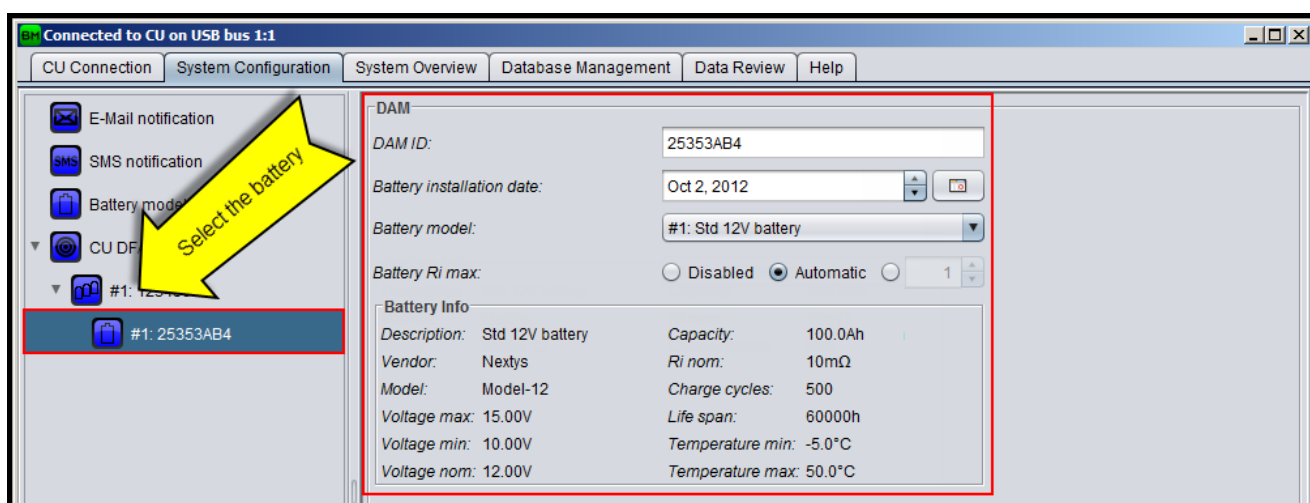

Figure 37: Battery configuration
2. Select the added string icon as shown in Figure 37 and fill in the following fields:
5. Select the added battery icon as shown in Figure 37 and fill in the fields as explained in §7.4.2.